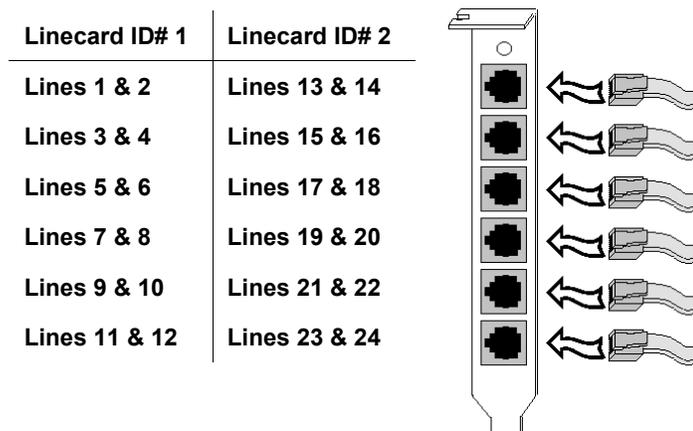

Figure 9. Line assignment scheme for D/120JCT-LS linecards
With the D/120JCT-LS linecard(s) installed in the platform, you can now cable the platform to the telephone system. As described in “Assigning the Linecard Identification Number,” OneBox assigns port numbers in ascending order based on the linecard identification number. For example, a D/120JCT-LS linecard to which you assigned the linecard ID 1 will be assigned line numbers 1–12; a D/120JCT-LS linecard to which you assigned the linecard ID 2 will be assigned line numbers 13–24 (as shown in Figure 9). Keep this line number assignment scheme in mind when connecting each D/120JCT-LS linecard to the telephone system.
- Plug the linecords (jacks) from the telephone system to the RJ-14 connectors on the D/120JCT-LS (refer to the line assignment diagram shown in Figure 9).